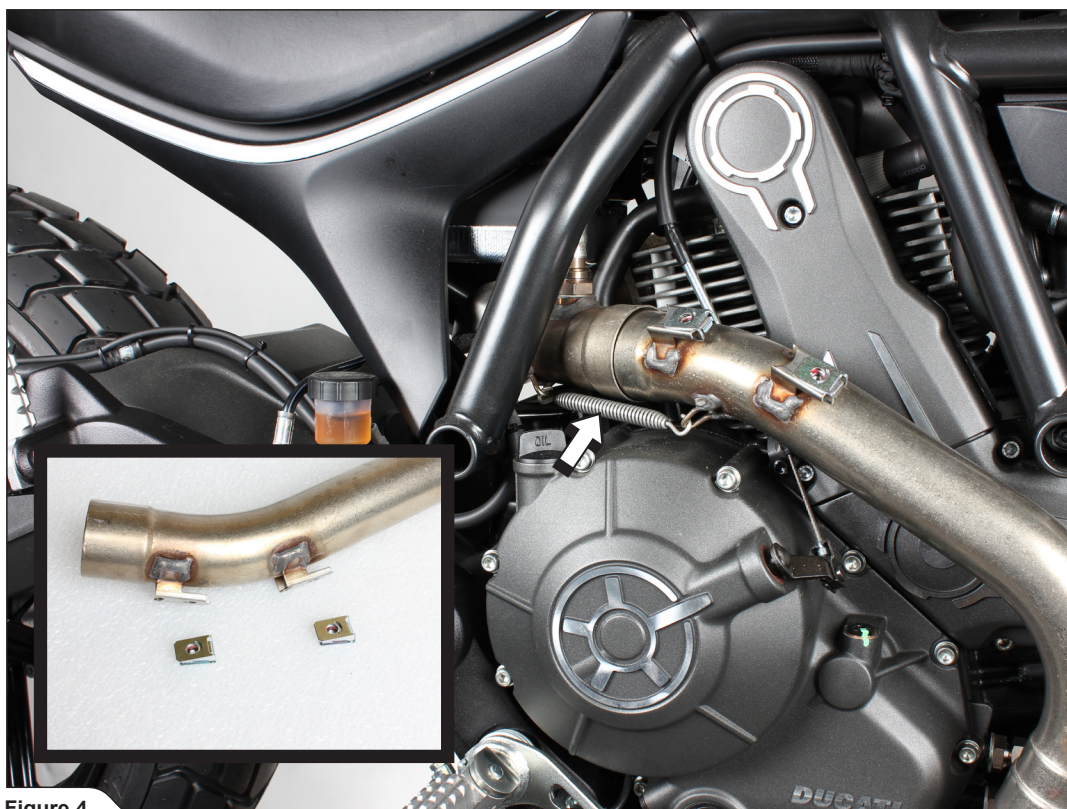

Figure 4
6. Undo the marked spring, carefully remove the rear header pipe off the motorcycle and remove the heat shield's press nuts from the header (Figure 4).